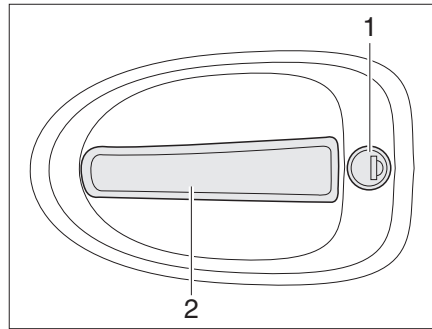

Fig. 44 Door lock of driver's door, outside
- Insert the key into locking cylinder (Fig. 44,1) and turn until the door lock is unlatched.
- Pull on the handle (Fig. 44,2). The door is open.
- Insert the key into locking cylinder (Fig. 44,1) and turn until the door lock is engaged.